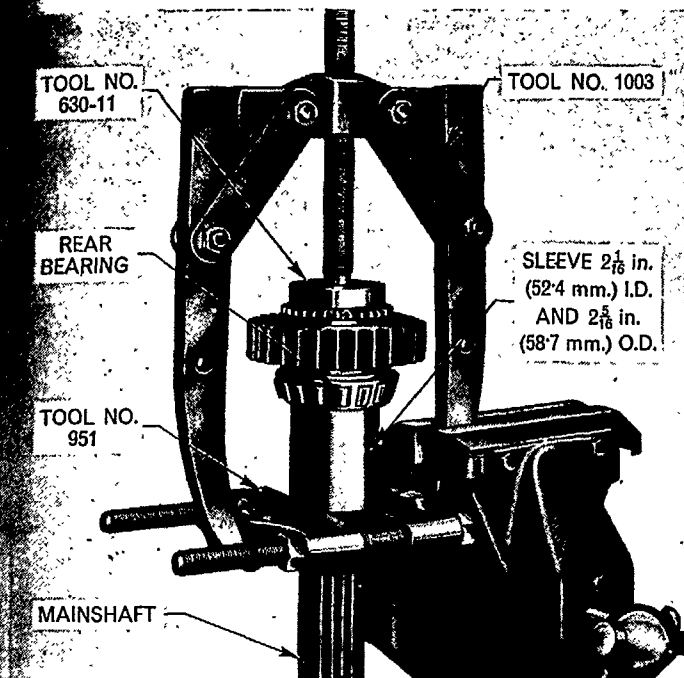

Figure 46
4. Install the mainshaft rear bearing using Tools Nos. 1003, 951, and 630-11 and hollow sleeve of suitable length; $2\frac{1}{8}$ in. (52.4 mm) I.D. and $2\frac{5}{8}$ in. (58.7 mm) O.D., Figure 46.